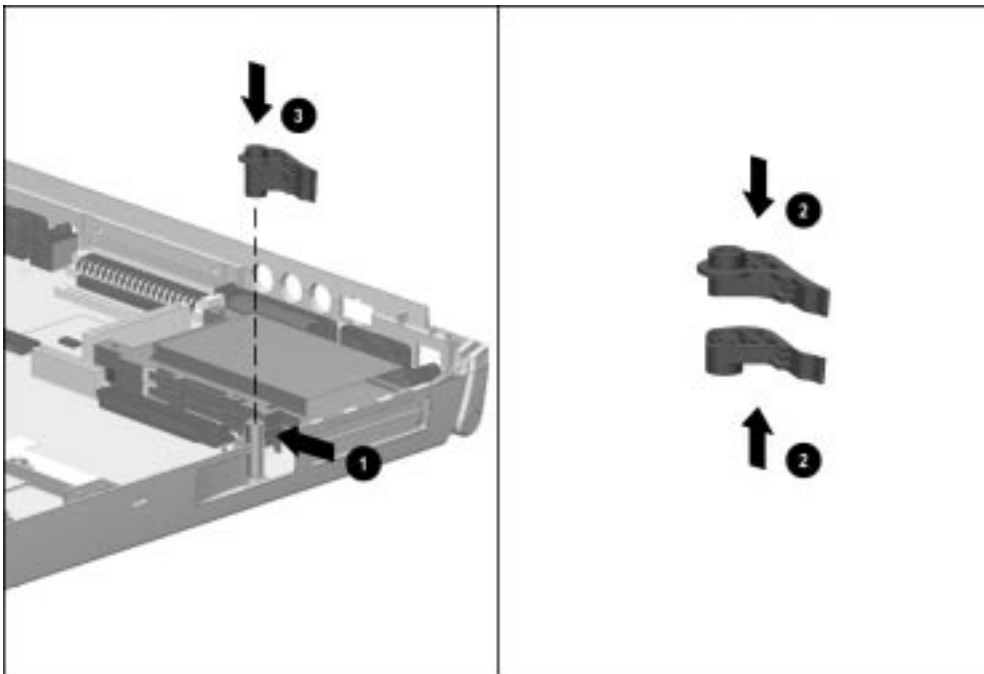

Figure 5-74. Installing the PC Card Eject Levers
1. Use a narrow flat tool, such as a small flat-blade screwdriver or a “spoojer,” to hold back the PC Card eject buttons ❶ (Figure 5-74).
2. Align the PC Card eject levers with the flush edges of each lever located on the inside ❷.
3. Place the PC Card eject levers on the mounting post ❸.